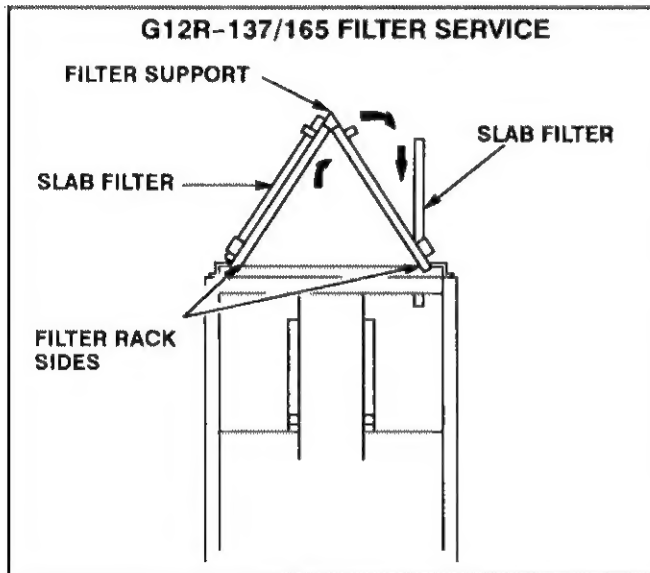

FIGURE 12
- 3- Lift filter vertically, and drop it down through lower slot in filter rack side. See figure 12.